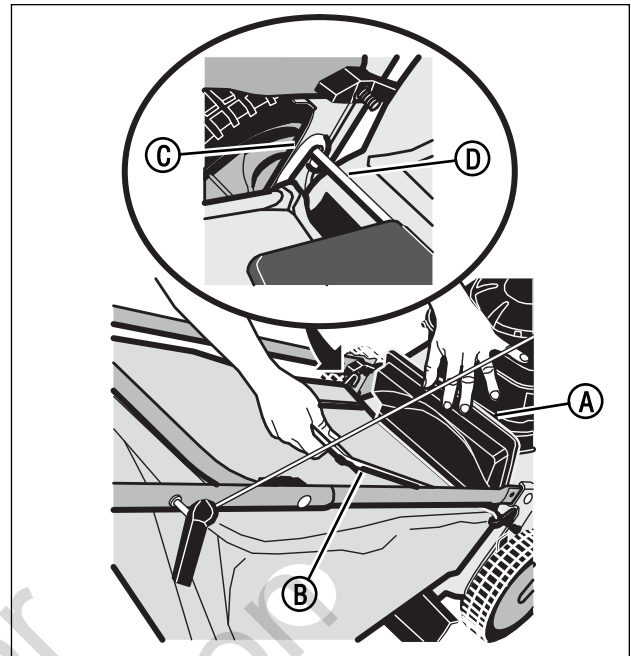

Figure 10: Mounting the grass bag
1. To mount the grass bag on the mower, raise the rear door (A, Figure 10). Holding the grass bag by the handle (B), mount the hooks (C) on either end of the grass bag frame assembly onto the rear door pivot rod (D). Lower the grass bag against the rear of the mower. Lower the rear door.